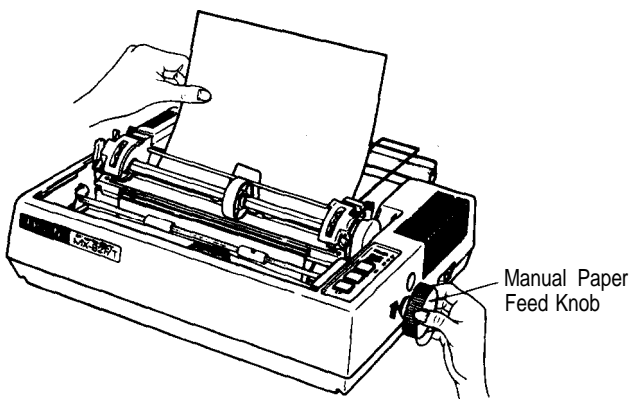

Fig. 40 Adjustment of Inserted Paper Position
7. While turning the manual paper feed knob clockwise, confirm that the paper advances straight up. (See Fig. 40)